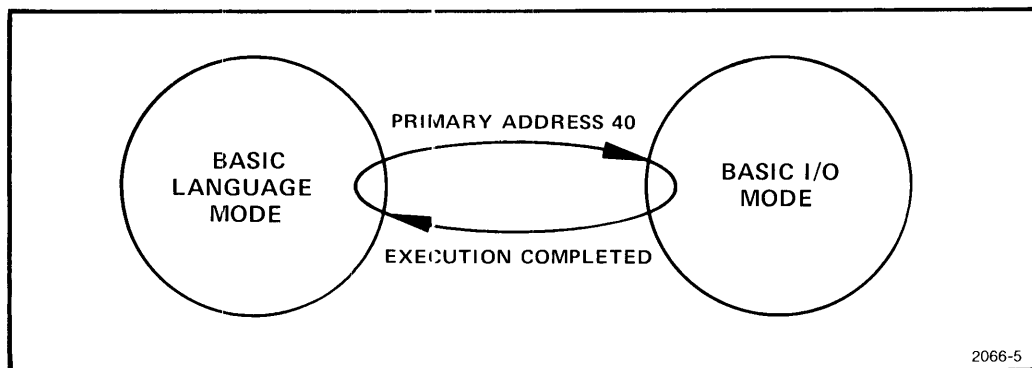

Fig. 4-1. Mode Transition between BASIC and BASIC I/O (full duplex only).
Figure 4-1 illustrates the BASIC language mode as a circle. Data are transferred from the 4051 memory via the Data Communication Interface whenever the primary address 40 is specified in the previously mentioned BASIC statements. For this reason, an arrow is drawn from the circle representing the BASIC language mode to the BASIC I/O mode and labeled "Primary Address 40" to indicate how this mode transition is achieved. After the BASIC I/O operation is completed, the Graphic System automatically returns to the BASIC language mode. This is indicated by the arrow which begins at the BASIC I/O circle and points to the BASIC circle. The arrow is labeled "Execution Completed," meaning that this transition back to BASIC occurs automatically as soon as the statement using primary address 40 is finished executing.
Figure 4-3 illustrates the transition to Terminal mode when the statement CALL "TERMIN" is executed and user-definable key 5 is pressed (RETURN TO BASIC). This figure is an extension of Fig. 4-1, showing how Terminal mode relates to the BASIC language mode and the BASIC I/O mode previously discussed.